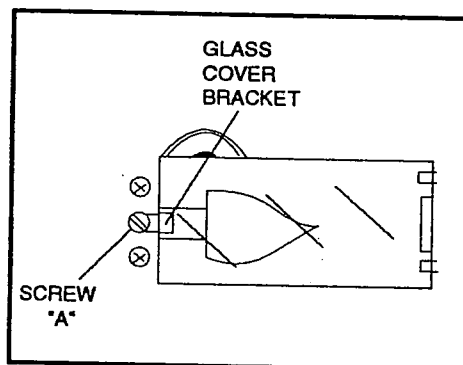

Figure 14
3. Use a dime in slot of screw "A" to twist and remove screw. (Screw "A" is the only screw with a "slotted" head as shown in Figure 14.) Also, remove Glass Cover Bracket.